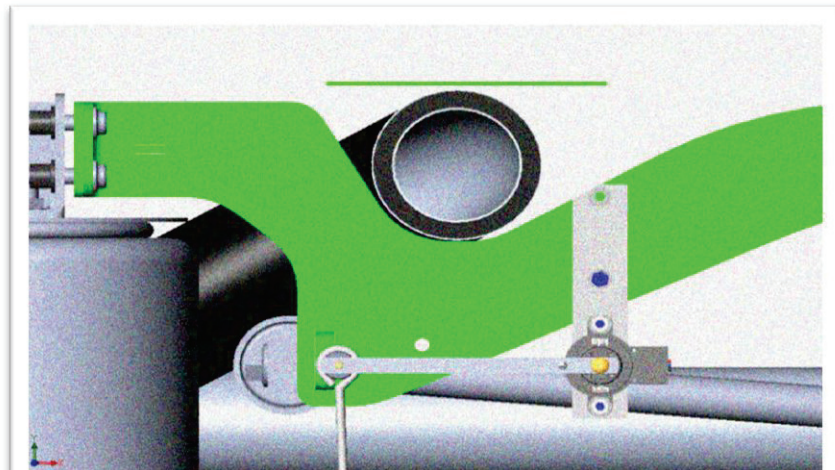

FIG. 2-1
1. Band clamps and rear muffler mount must be loosened to allow manipulation of pipe. Refer to FIG. 2-1.
2. Adjust position of pipe down and away from upper cross member detail and tighten front band clamp. Refer to FIG. 2-1.